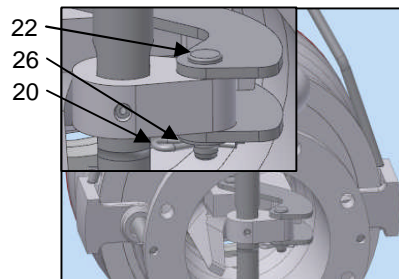

Fig. 10 & 11
43. Discard Poppet (10), Nose Piece (4), Hitch Pins (20) and Link Pins (22) and replace with New Items. Remove Seals (30 & 8) carefully using a pick and transfer to New Nose Piece if not using with a Seal Kit. Make sure Nose Piece Grooves are free from any grit and dirt. (Fig. 10 & 12)